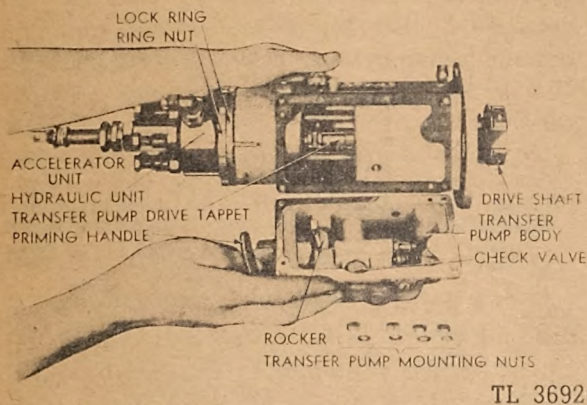

Fig. 274. Removing Transfer Pump
c. *Transfer Pump.* The transfer pump unit bolts up against the underside of the drive unit body. The unit can be removed from the pump by unscrewing the four hex nuts. (See Figure 274.) To disassemble and to reassemble the transfer pump, proceed as follows:
(7) The assembly of the transfer pump can be conducted in the direct reverse of the steps just outlined. Care should be exercised in the assembly and disassembly to keep all the parts clean and to prevent scraping or scoring of the pistons or piston bore. The pistons and bores are lapped fits; any mutilation of these surfaces may cause failure of the unit. When the transfer pump is assembled on the drive unit, it is important that the plunger drive rocker be engaged with the slot in the transfer pump drive tappet. If the rocker is not engaged in this slot, the face of the unit will not come up tight against the gasket of the drive unit body. Under no circumstances should it be forced or drawn up with the retaining nuts. The best procedure to follow for mounting the transfer pump is to turn the pump drive shaft until the bottom tappet is in its extreme position toward the hydraulic unit; then, with the rocker arm almost at the end of its travel, the rocker should engage with the slot when the transfer pump is mounted. (See Figure 274.) Always be sure that the unit can be pressed up firmly against the drive unit by hand before tightening the retaining nuts.